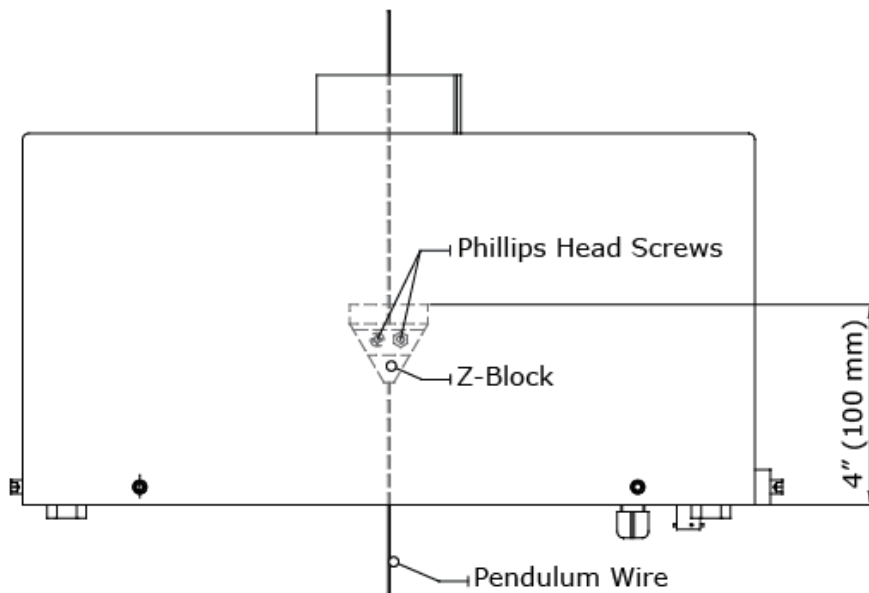

Figure 21 - Positioning of the Z-block
- 25) Position the Z-block on the pendulum wire at a height of approximately 100 mm (4") above the center rails of the pendulum table. Using a Phillips head screwdriver, tighten the two screws in the Z-block so that it clamps onto the pendulum wire. Figure 21 shows the positioning of the Z-block.